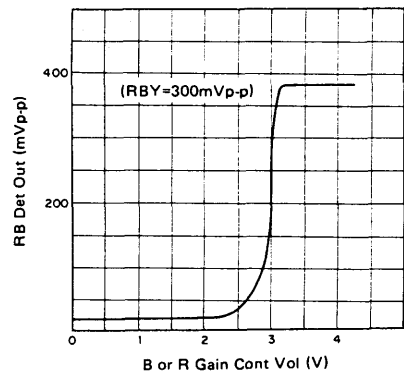

Fig. 4
- [4] B or R gain characteristics (Fig. 4)